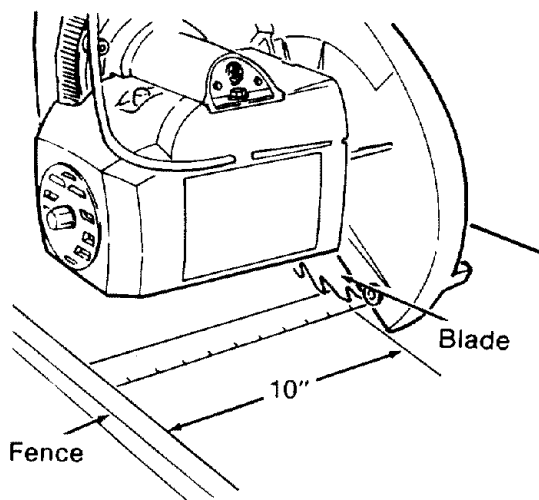

Fig. 106 - Out-Rip Reference
7. Move the *motor* until the *blade* is 10 inches in front of the *fence*. Use a framing square, ruler or tape measure to measure this distance. (Figure 106)